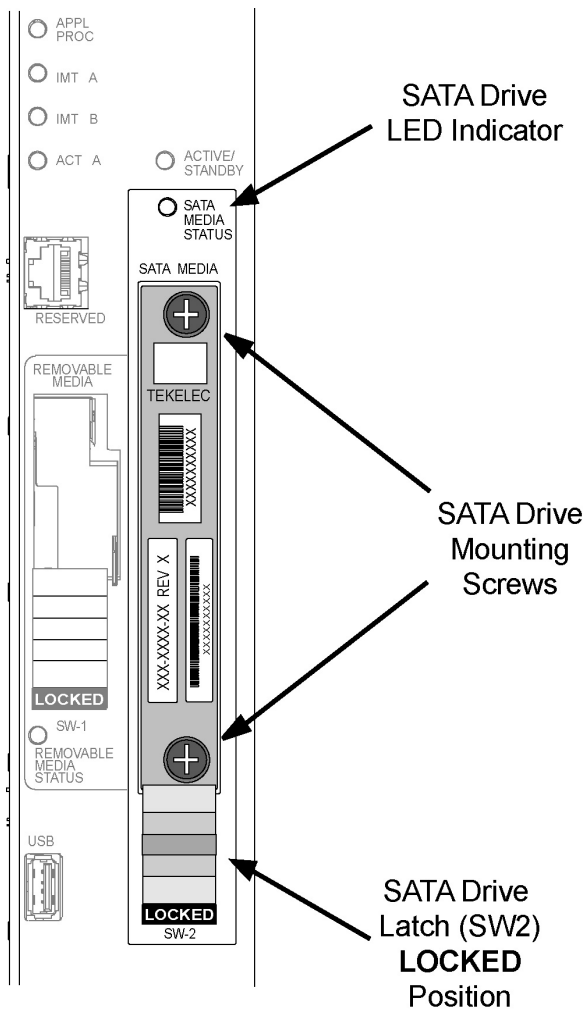

Figure 15: SATA Drive Locked
11. Verify that the SATA drive is locked in position and in use. Refer to Figure 15: SATA Drive Locked.